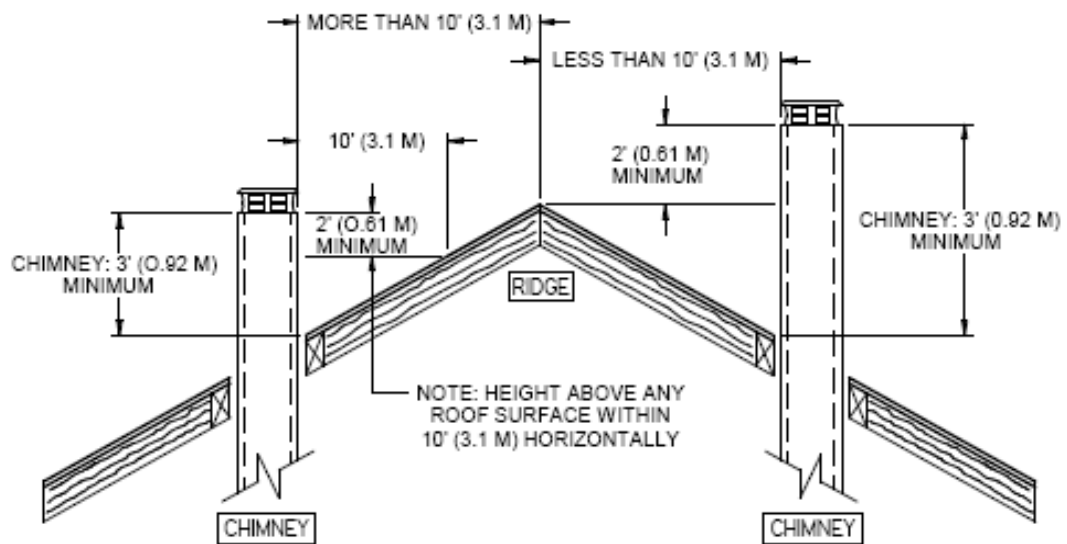

Figure 27a
6. The chimney must extend at least 3 ft. (92 cm) above its point of contact with the roof and at least 2 ft. (61 cm) higher than any wall, roof or building within 10 ft. (3.1 m) of it. See **Figure 27a and 27b** to determine the configuration that applies to your roof (flat or sloped roof and the distance between the chimney and the highest point of the roof and/or the nearest chimney).